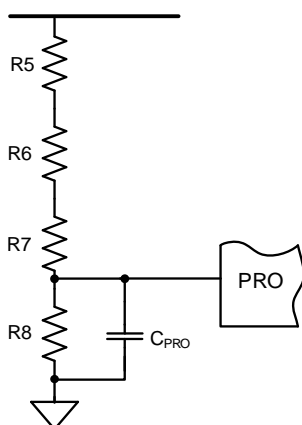

Figure 9: Input Over-Voltage Protection Set-Up
Figure 9 shows a typical input OVP circuitry of the HF920B. The input OVP point can be calculated with Equation (16):